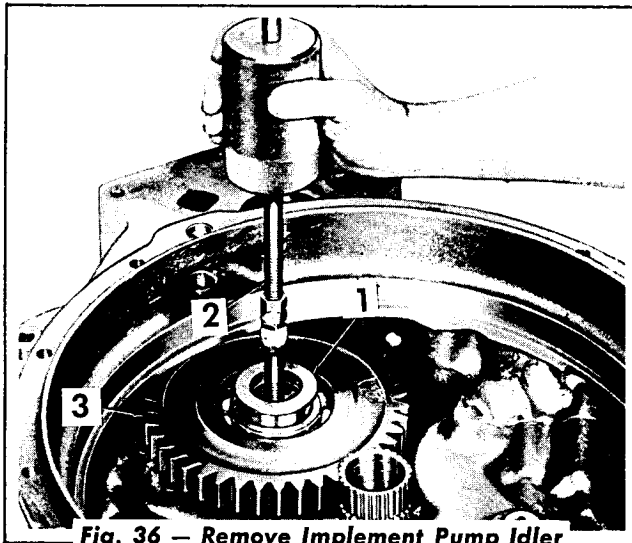

Fig. 36 — Remove Implement Pump Idler Gear Spindle
20. Remove the spindle retainer capscrew from the implement pump idler gear spindle (Fig. 36). Install a slide hammer (2) and remove the spindle. Remove the implement pump idler gear and bearing (3). Do not remove the bearing from the gear.